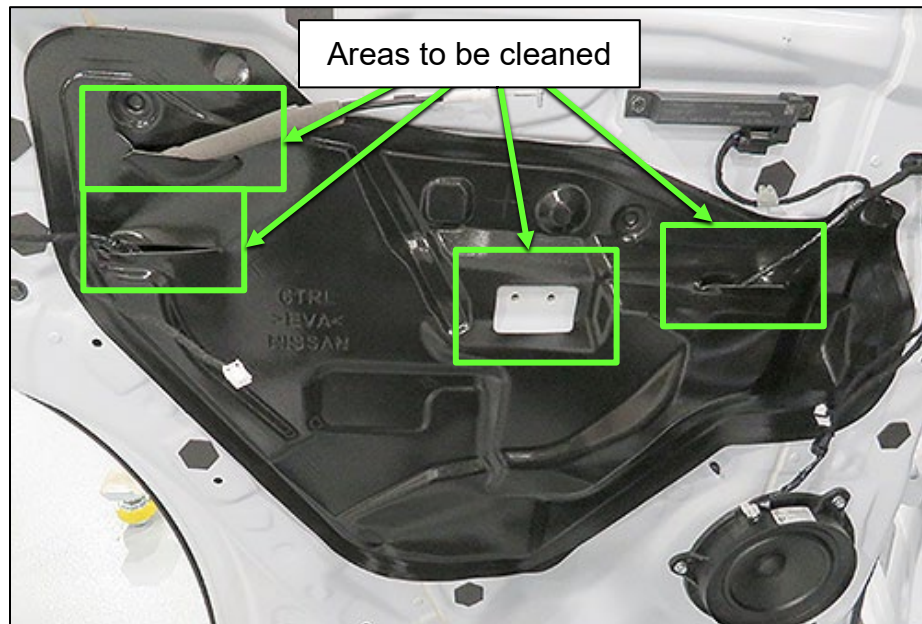

Figure 30
40. Use 80-220 grit sandpaper to scuff the four (4) areas shown in Figure 30.
41. Clean the door seal surface in the four (4) areas shown in Figure 30 with alcohol.